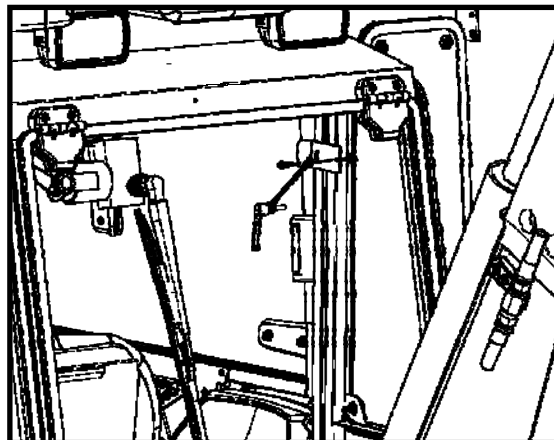

Figure 18.6: Backhoe Cab Handle Cables
- 18.6 Fasten the backhoe cab adjustable handle cables to the backhoe cab (see Figure 18.6)